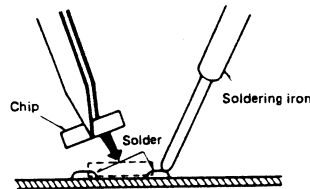

Fig. 17
1. Place solder on the foil where the chip is fitted. Then solder the chip by holding the soldering iron as shown in Fig. 17.